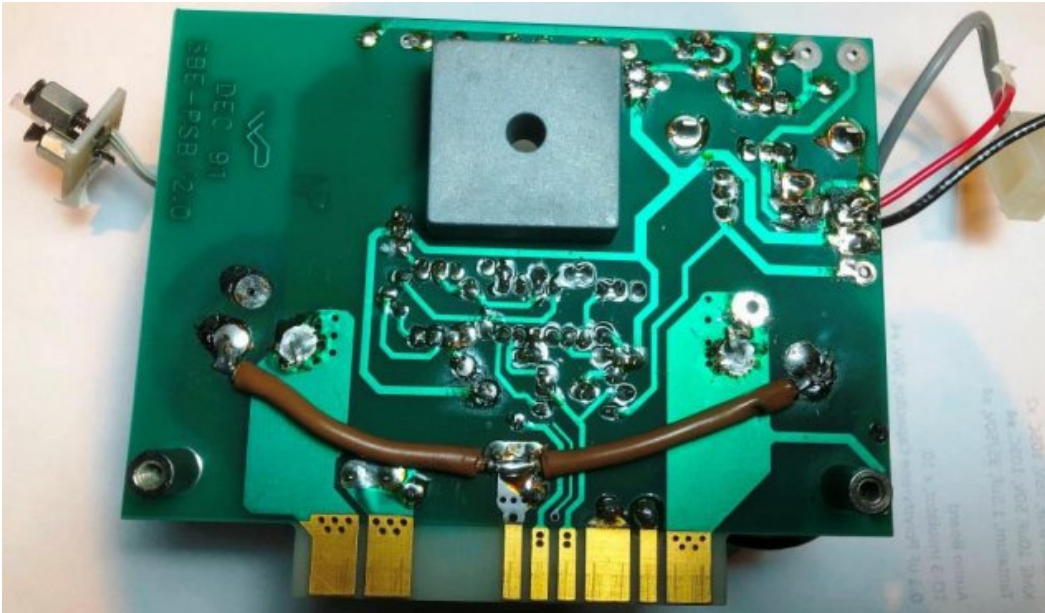

Figure 8. Installation of jumper wire on the underside of the power supply PCB.
- * One way to restore this connection is to run a jumper wire connecting the 2 outer pins of each capacitor back to the common ground (Fig 8). This is not to make any changes to the circuit, just to restore the connections originally made by the PCB traces.